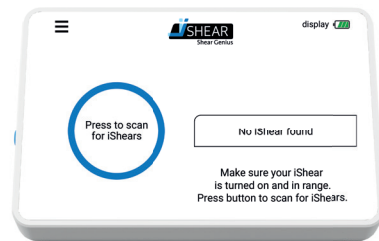
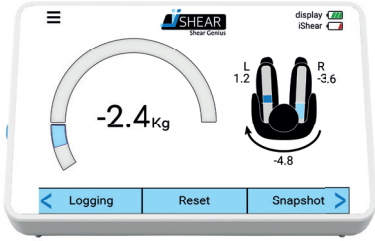

Figure 10: Scanning for iShear devices
Figure 11: Measurement screen
Tap the 'Press to scan for iShears' button (see Figure 10).
From the list displayed (see Figure 10), choose the desired iShear for connection. Upon successful pairing, the Measurement screen will open automatically (see Section 3.3.2, Figure 11).
2. Turn on the display (see Section 3.3.1, Figure 10).